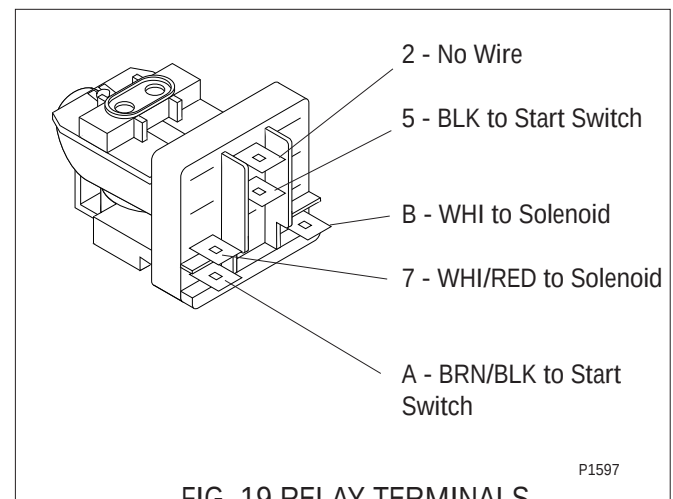

FIG. 19 RELAY TERMINALS
If continuity is present as described, reconnect the brown/black wires and white wires to the relay, FIG. 19, and proceed to #4.
8. Refer to FIG. 19 when reconnecting the wires.